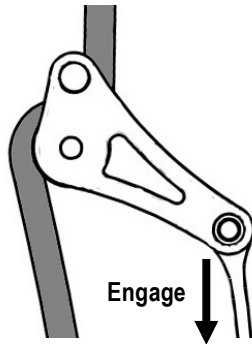

Figure 6b. Engaged Gear
**Before Descending.** Ensure that the Rope Wrench has begun to engage (refer to **Figure 6b.**) To do this, move the Rope Wrench as far up the climbing rope as possible, and while holding it there, gently release the grip of the friction hitch so that the body weight can be partially shifted from the climbing rope to the tether, which should then begin to engage the Rope Wrench.